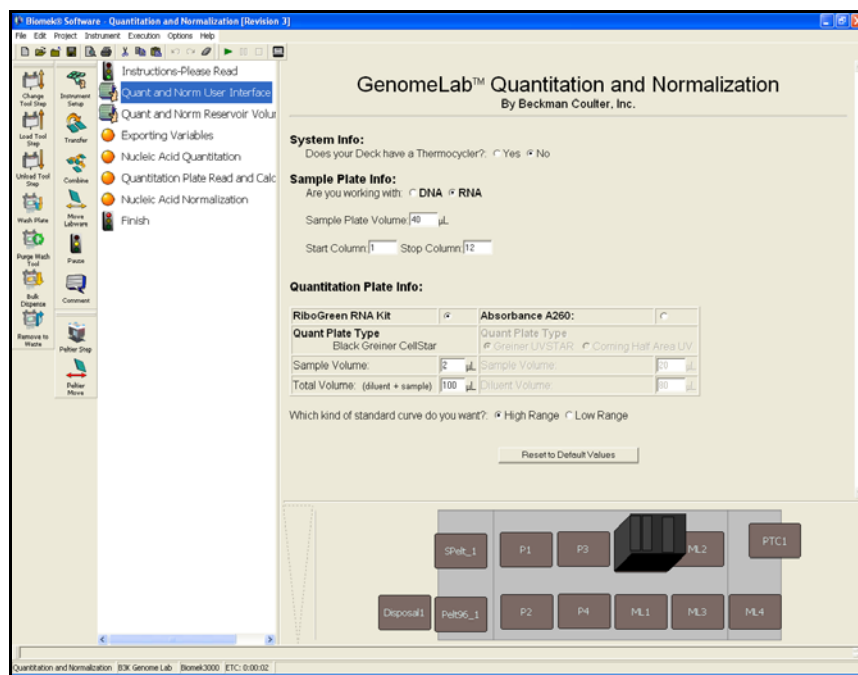

Figure 1-1. Quant and Norm User Interface step
5. Select the **Quant and Norm User Interface** step (Figure 1-1).